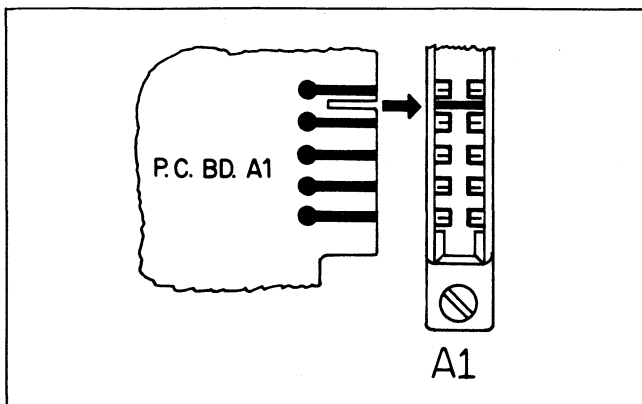

Figure 25. Slot Alignment
- Reinstall Time Delay Board "A1" into its socket Figure 25.